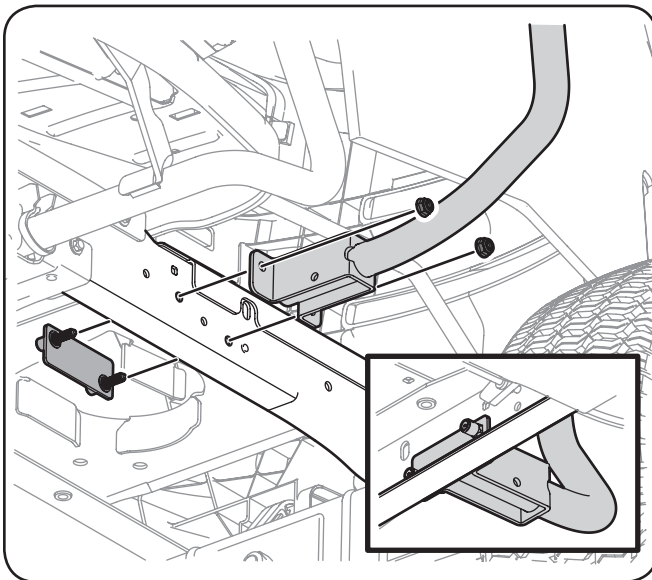

Figure 3-2
1. Using two of the flange lock nuts (Ref. part #11) and one of the front canopy mount plates (#8), mount the front left support (#6B) to the frame of the tractor as shown in Figure 3-2.